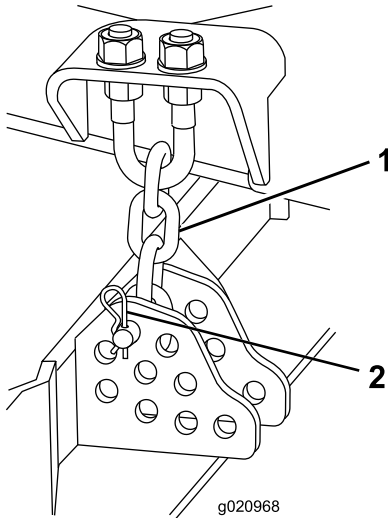

Figure 17
9. Remove the hairpin cotter and clevis pin securing the height-of-cut chains to the rear of the mower deck (Figure 17).